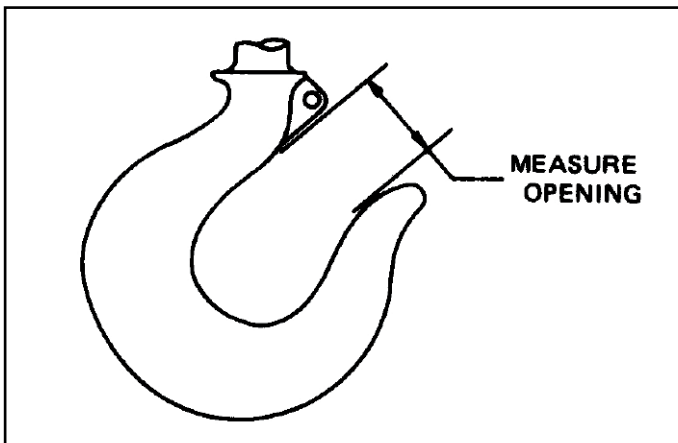

Figure 5-5. Lower Hook Opening (Shown with latch removed for clarity.)
- as. **DO NOT operate hoist with hooks that have opened up. See Figures 5-5 and 5-6.**
(1) Check for bent or distorted hook. If hook is opened beyond the dimension given in figure 5-5, it must be replaced. Also check to see that hook swivels and is free to pivot. Lubricate these points if necessary.